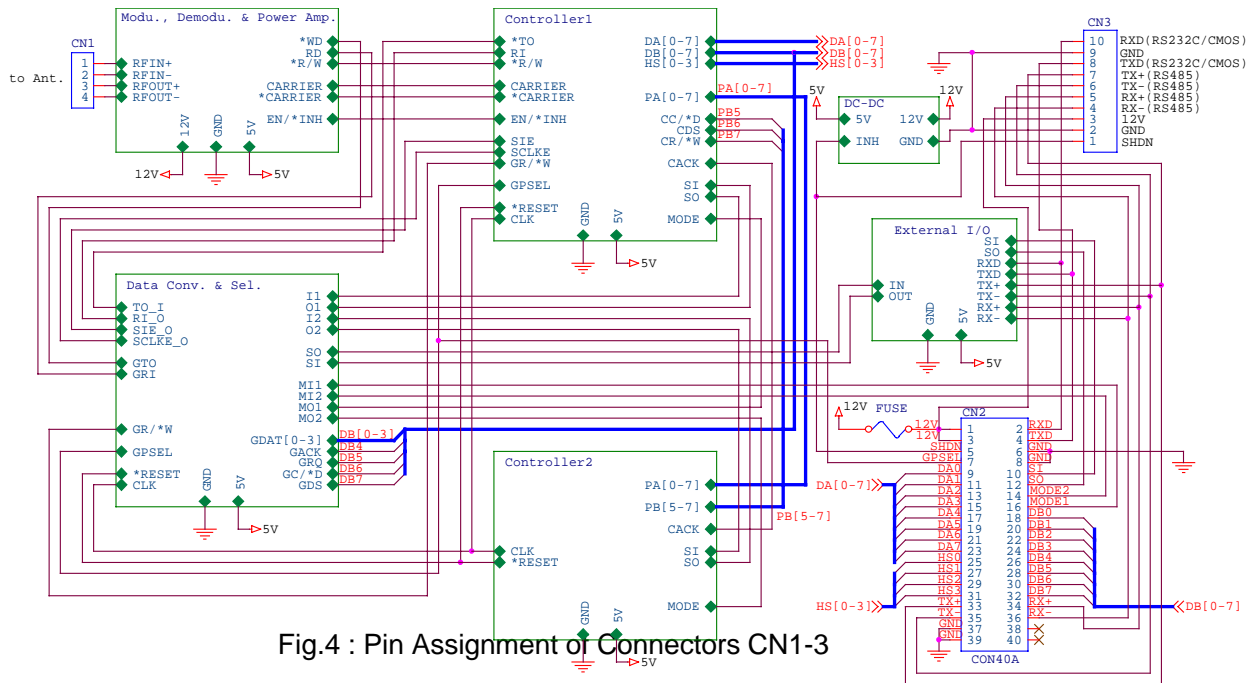
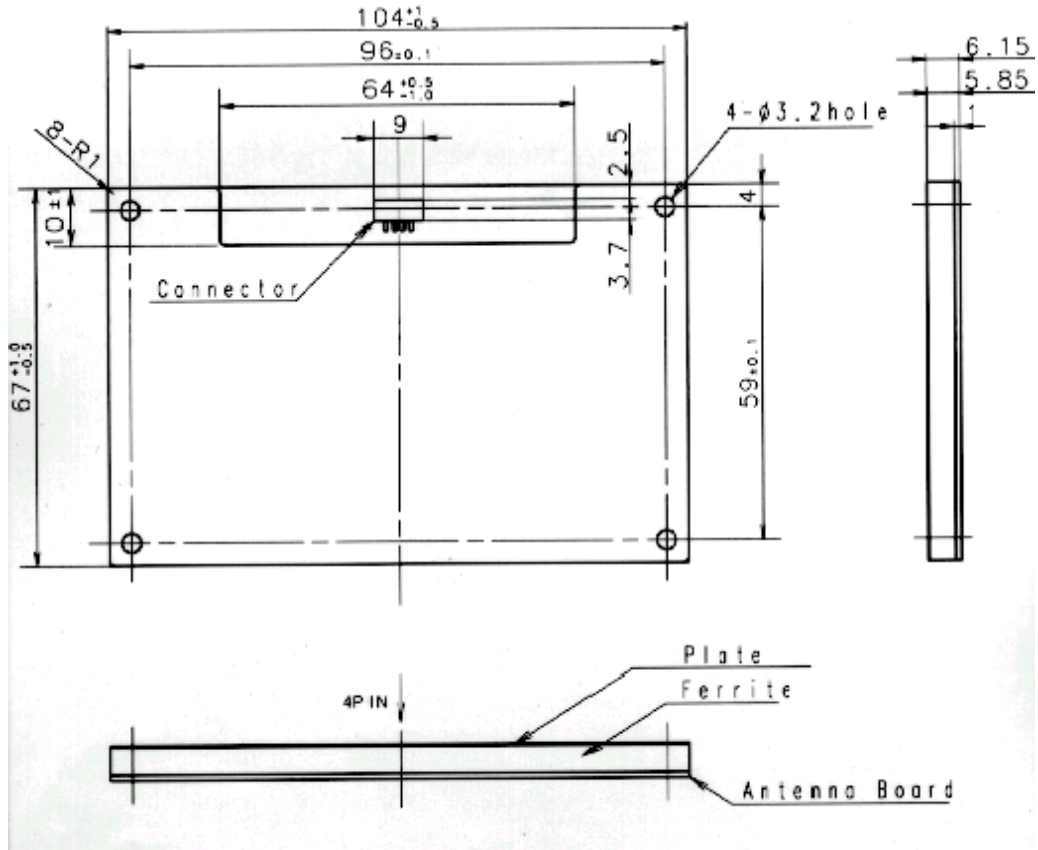
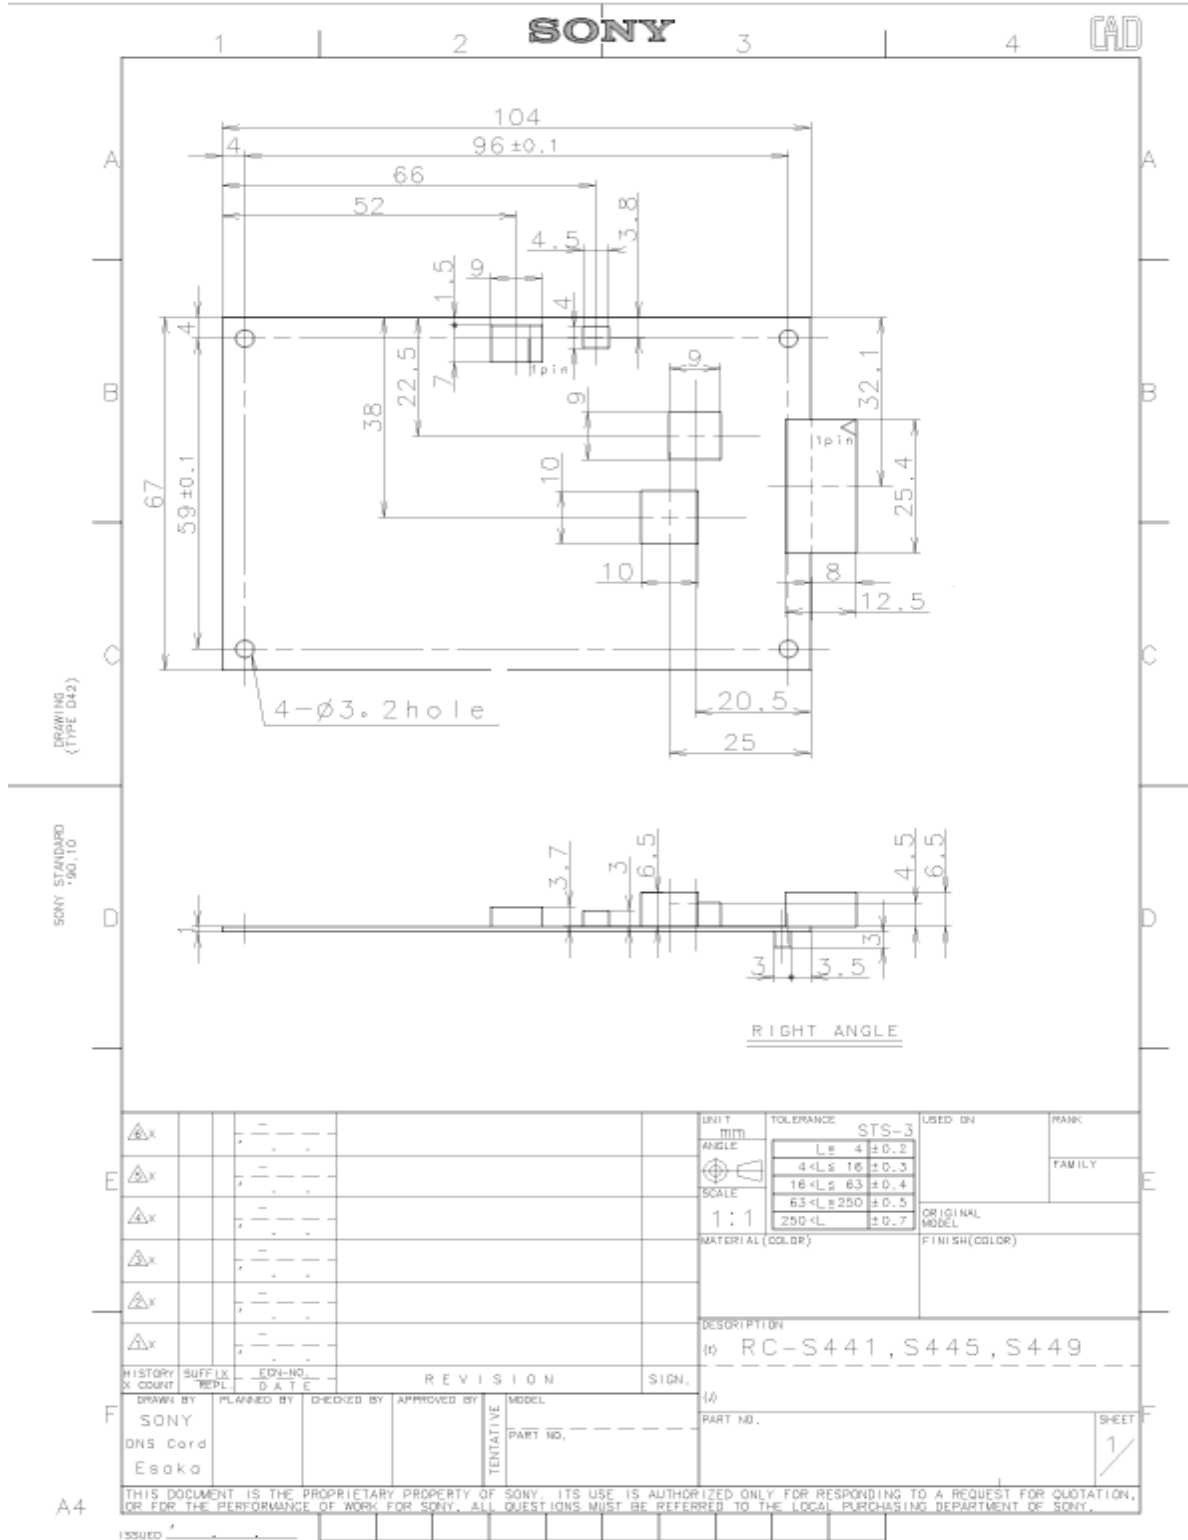
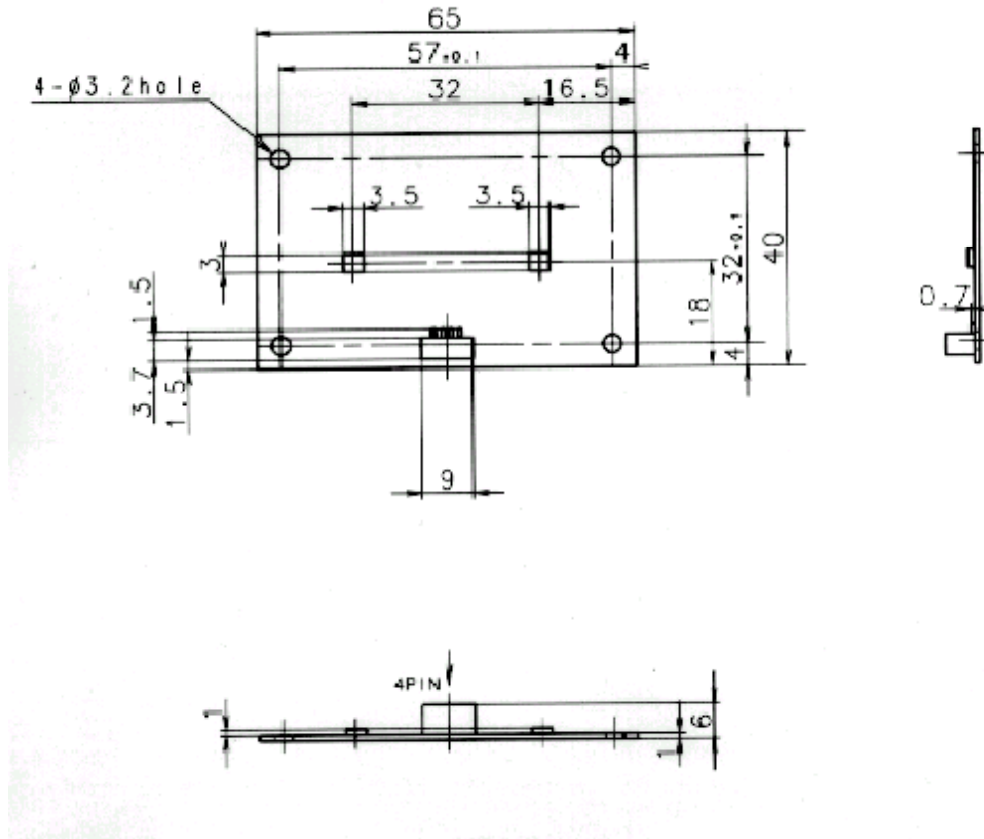

Fig.4 : Pin Assignment of Connectors CN1-3
Fig.6 : Antenna Board (Type C)
Fig.7 : RF/Control Board
Fig.9 : Antenna Board (Type E)
General model No. "RC-S441" or "RC-S445" is printed on the RF/Control board (see Fig.2-1 and 2-2). "Type C" means antenna type shown in Fig.6 and it is marked on "C" as in Fig.2. A mark on numerals 1-6 (it is 1 in Fig.2-1 and 2-2) indicates the installed software version.
The interface connector is a 10-pin connector located at the right edge of the RF/Control board which is shown in the schematic drawing of Fig.7. The pitch of connector pins is 2.54mm. The most upper connector pin is No. 1. Pin assignment of the connector is shown in Fig. 4 and Table 5.
- Dimensions (see Fig.6 and Fig.7)
- Mounting Holes (see Fig.6 and Fig.7)
General model No. "RC-S441" is printed on the RF/Control board (see Fig.8). "Type E" means antenna type shown in Fig.9 and it is marked on "E" as in Fig.8. A mark on numerals 1-6 (it is 1 in Fig.8) indicates the installed software version.
- Dimensions (see Fig.7 and Fig.9)
- Mounting Holes (see Fig.7 and Fig.9)